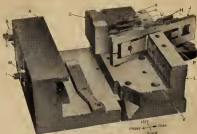

FIGURE 3
24 Remove the lower MOLD BLADE (J) and the upper MOLD BLADE (P) (complete with its CARRIER (H), LATCH (I) and SPRING). To do this, hold them together and swing their rear end toward the left so that they form an angle of about thirty-five degrees with the right face of the left TYPE BLOCK (C) as shown in Fig. 3; then lift them up out of the opening in the SQUARING PLATE (L). If the TYPE-BLOCK SHOE (U) does not come out with the MOLD-BLADE CARRIER, remove it separately.
32 Slip the SHOCK (U) on to the right end of SCREW (B). Turn the MOLD onto its left side, push the SHOCK (U) toward the top of the TYPE BLOCK as far as the SCREW (b) will permit. Replace the combined MOLD BLADES in the MOLD in the reverse of the manner in which they were removed (¶ 24), slipping the CARRIER (H) over the SHOCK (U). (See Fig. 3). Be careful that the lower end of LATCH (I) goes into the circular hole in the shelf extending from the back of the SQUARING PLATE (Fig. 2) and that the lug on the rear of the left TYPE BLOCK goes into the back end of the POINT BLOCK opening in the MOLD BLADE.
34 Place the POINT BLOCK (V) in position in its opening in the MOLD BLADE. It should have the grooved side up and the hole in it nearest the front of the MOLD and in line with the hole in the left TYPE BLOCK (C), as shown in Fig. 3. If it is too far front it will damage the NICK PIN when the right TYPE BLOCK (O) is pushed on.